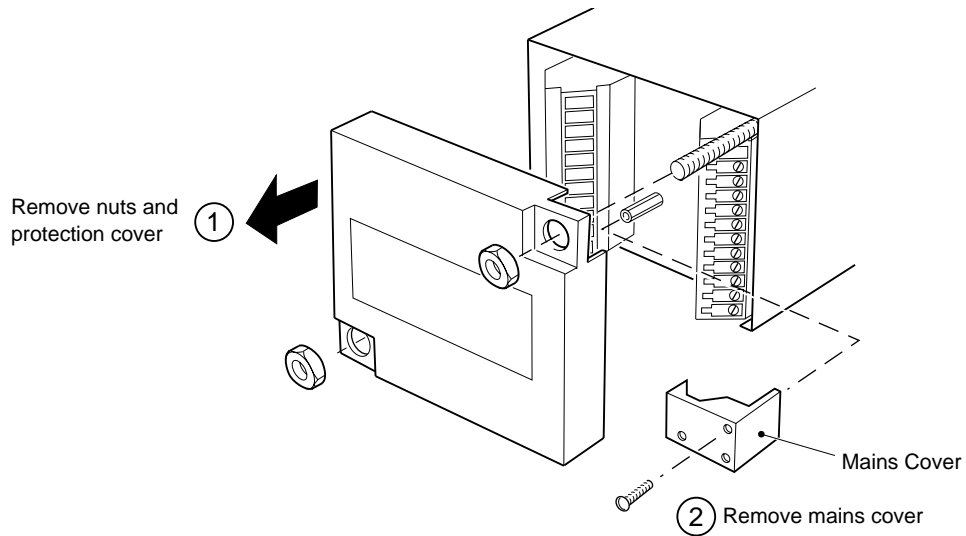

Fig. 4.4 Access to Terminals – Panel-mounted Instruments
4.3 Panel-mounted Instrument Connections – Figs. 4.4 and 4.5
...4.3 Panel-mounted Instrument Connections – Figs. 4.4 and 4.5